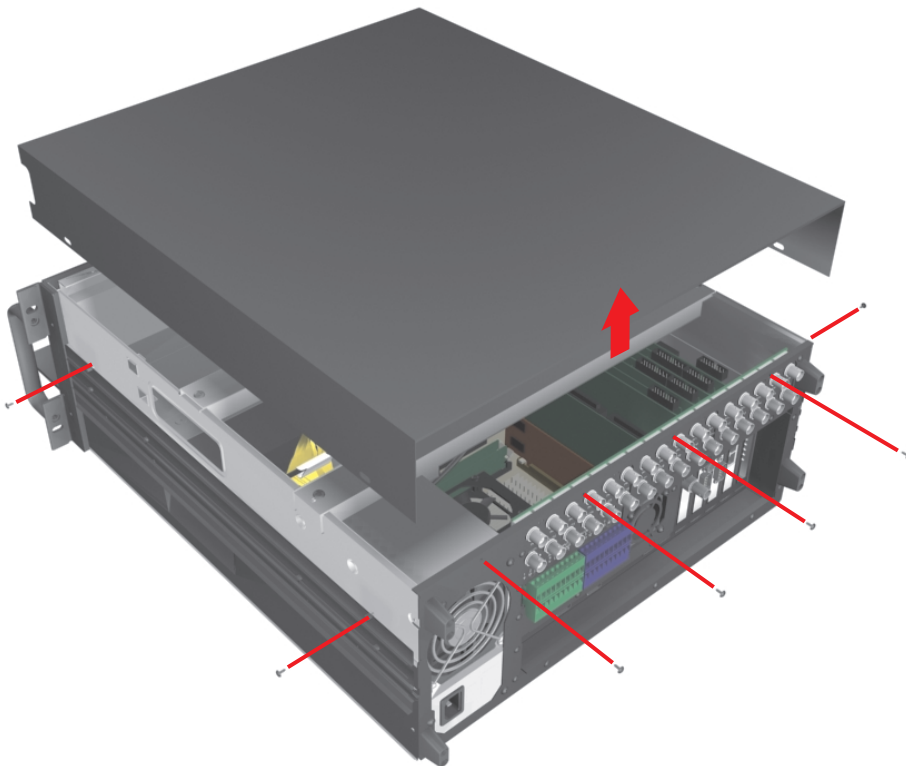

Figure 4. Removing Chassis Cover
- Remove the two top-most screws on the left and right side panels of the DX8000. Refer to Figure 4.
- Remove the four silver screws fastening the cover to the rear of the unit. These screws are the ones closest to the top of the unit. Refer to Figure 4.